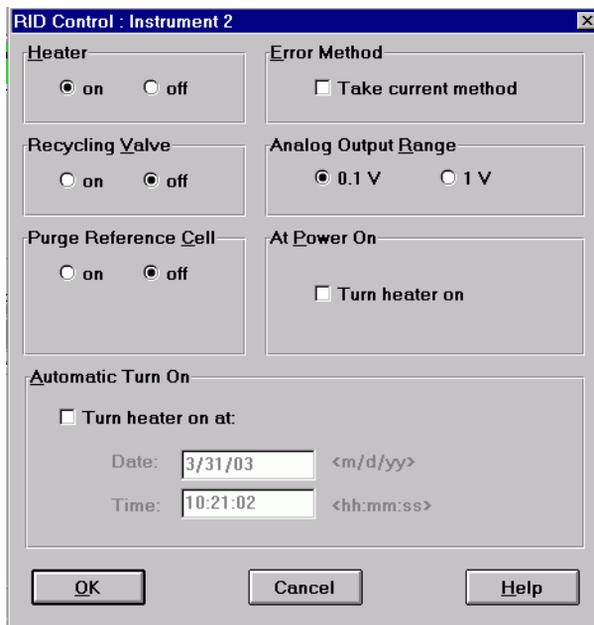

Figure 14 RID Baseline Check Control
- Turn the heater on and purge the detector reference cell for 20 minutes as shown in Figure 14: